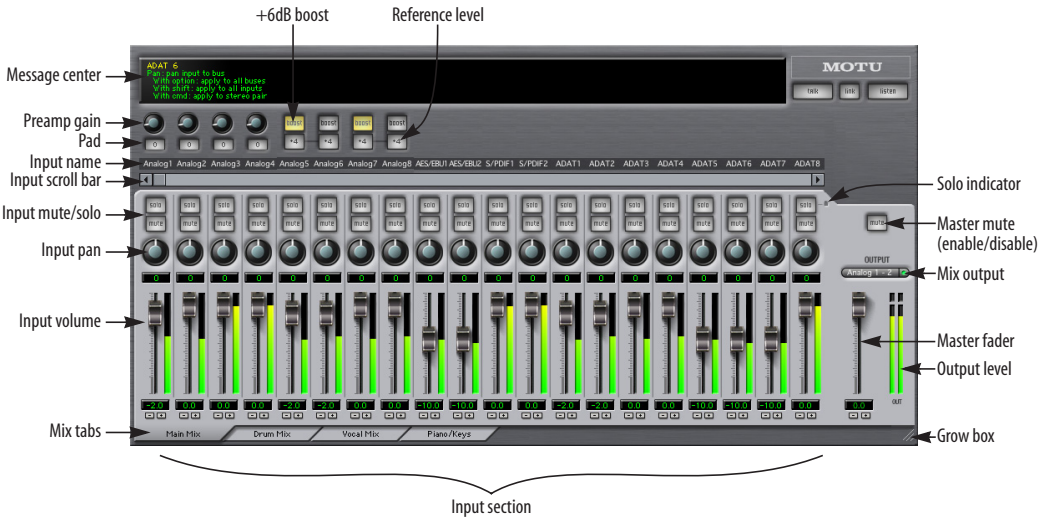

Figure 10-1: CueMix Console is a virtual mixer that gives you control over the Traveler’s on-board mixing features.
CueMix Console displays one mix at a time. To select which mix you are viewing, click its tab at the bottom of the window, as shown in Figure 10-1. The mix name appears in the tab. Double-click the name to change it.
To view a mix, click its tab at the bottom of the window, as shown in Figure 10-1. The mix name appears in the tab.
The master mute button (Figure 10-1) temporarily disables (silences) the mix.
The master fader (Figure 10-1) controls the overall level of the mix (its volume on its stereo output). Use the individual input faders to the left to control individual input levels.
To add an input to a mix, or remove it, click its MUTE button. To solo it, use its SOLO button. To toggle these buttons for a stereo pair, hold down the control key while clicking either channel. The Solo indicator LED (Figure 10-1) lights up when any input is soloed (including inputs that may currently be scrolled off-screen).
Use the input fader and pan knob (Figure 10-1) to adjust these settings for the input in the mix. Again, all settings within the gray-shaded channel strip area belong to the mix currently being viewed. Note that an input can have different settings in different mixes.
- 1 Select the source mix (Figure 10-1) and choose Copy from the file menu (or press control-C).
The preamp gain, pad, reference level and +6dB boost settings at the very top of the CueMix Console window (Figure 10-1) affect each input globally, across all mixes and for audio being routed to the computer. For example, if you add 6dB of boost, your host software will receive the boost for that input as well.
This setting (Figure 10-1) adjusts preamp gain, just like the four trim knobs on the front panel of the Traveler.
These buttons (Figure 10-1) toggle the pad for each mic input. Clicking these buttons is the same as pushing the trim knobs on the front panel.
This setting (Figure 10-1) adds 6 dB of gain to the input signal. This setting is applied globally for the input.